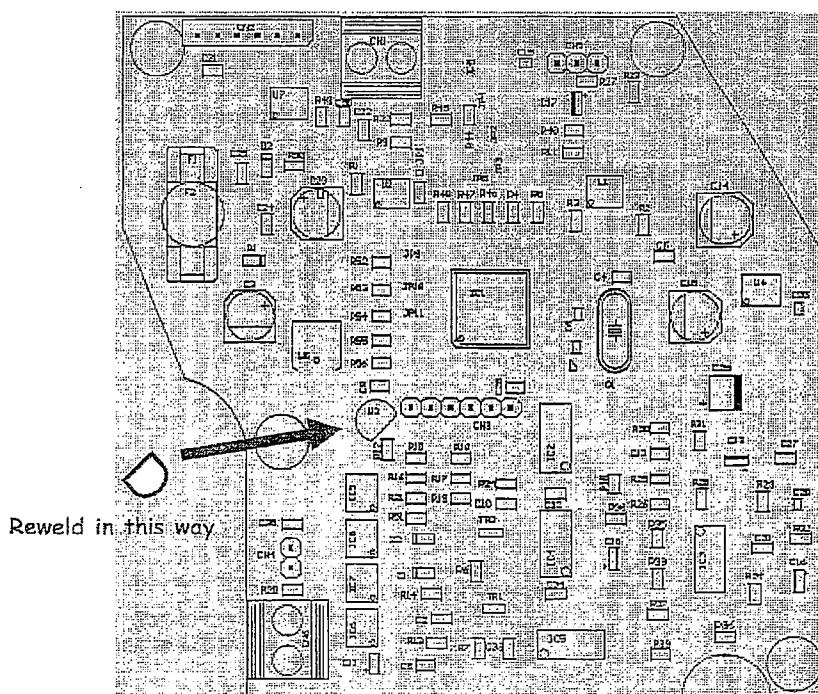

Figure 1
- the power-supply monitor is welded in a bad way, weld the component as figure 1 and redo the calibration
- the power supply monitor is welded in a bad way, weld the component as figure 1 and redo the calibration